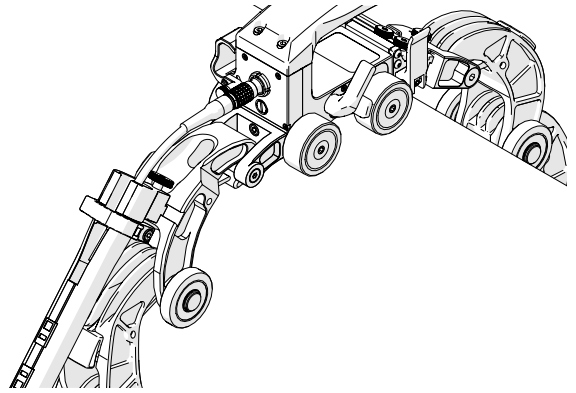

Fig. 163 - Attach cable management and route cables
10. Attach the cable management (Fig. 163) and route cables as required (see Cable Management System on page 35).